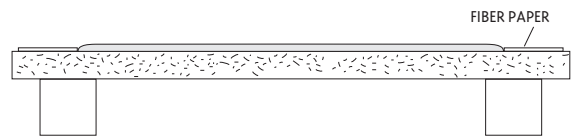

FIGURE 5
1. Insulate the edges of the glass piece with ceramic fiber paper, blanket, or board. This will slow down heat release from the edges. (Figure 5)